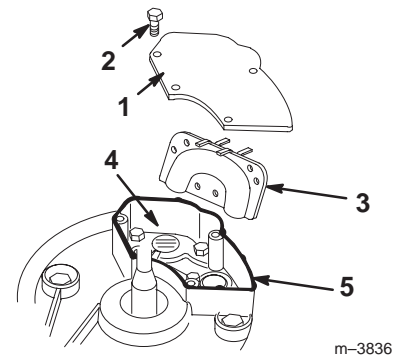

Figure 29
5. Remove the four capscrews that attach the cover plate to the engine mounting plate (Fig. 29).
6. Remove the transfer pipe (Fig. 29).
8. Rotate the crankshaft slowly until the piston covers the exhaust port (Fig. 29).
12. Wipe the bottom of the cover plate and the edge of the engine mounting plate where the sealant will go with a clean cloth to remove any dirt (Fig. 29).
13. Run a bead of high-temperature automotive silicone sealant along the edge of the engine mounting plate where the cover plate will rest (Fig. 29).
14. Install the transfer pipe and cover plate (Fig. 29), torquing the four cap screws to 75 in-lb (8.5 N·m).